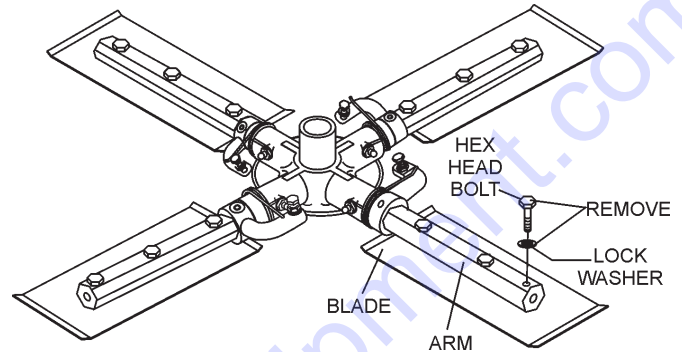

Figure 50. Trowel Blade Removal
1. Remove the trowel blades from the trowel arm by removing the three hex head bolts (Figure 50) from the trowel arm. Set the blades aside.